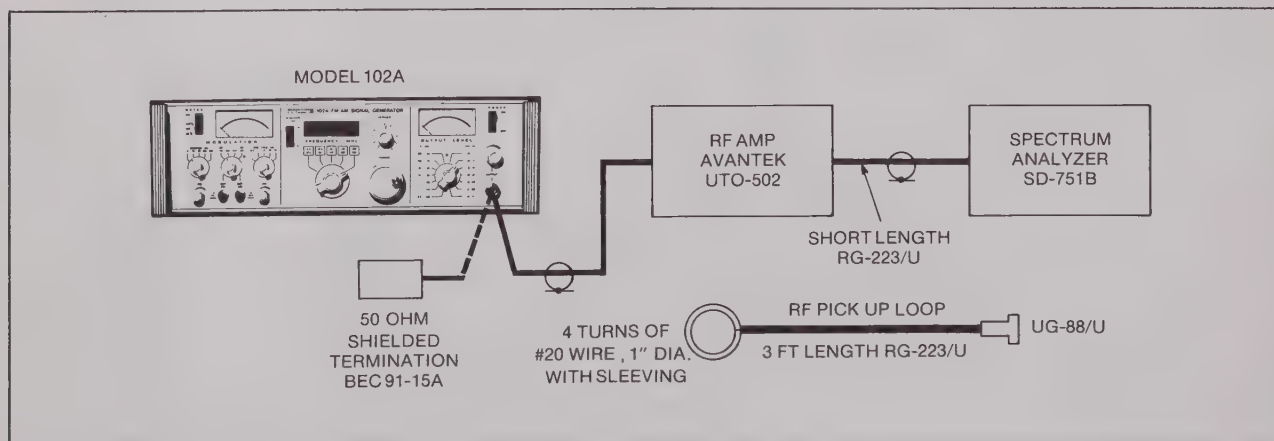

Figure 2-25 RF Leakage Check, Test Setup
a. Connect the Model 102A and test equipment as shown in Figure 2-25.